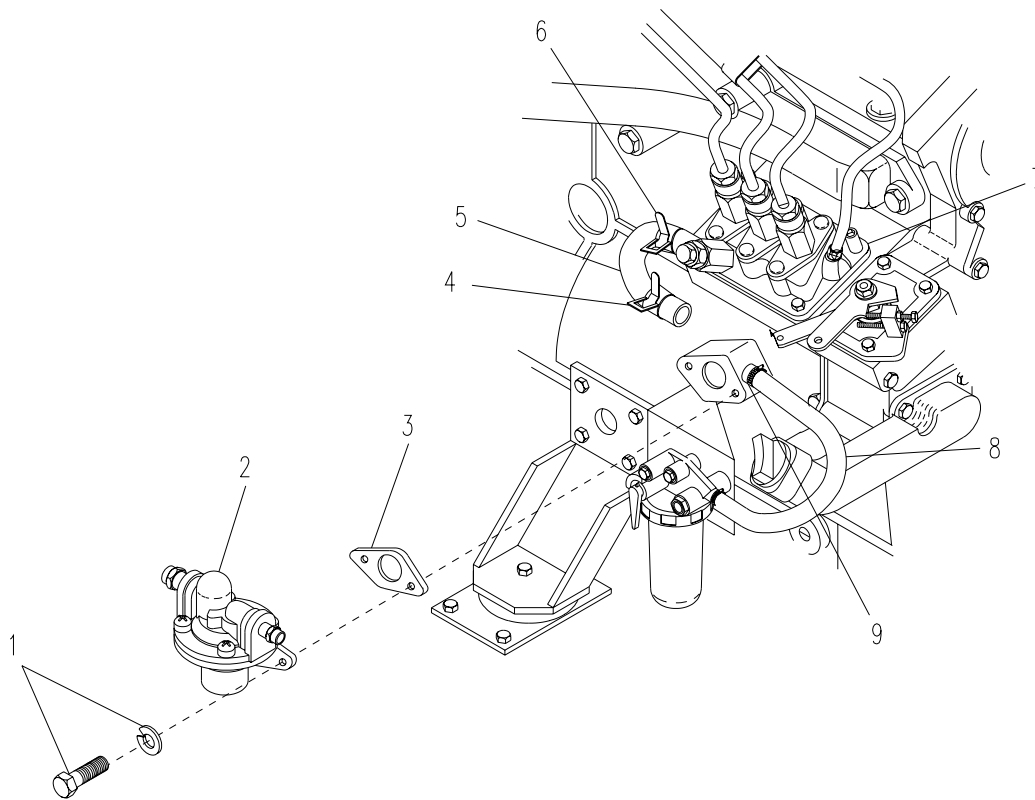

Figure 4-21. Fuel Feeder Pump
- b. Place pan under line (5, Figure 4-21) to receive fuel.
- e. Observe fuel flow from fuel feeder pump (2). If no fuel is pumped out, pump is faulty. Replace fuel feeder pump.
- g. Install line (5) and secure to fuel injection pump (7) with clamp (6).